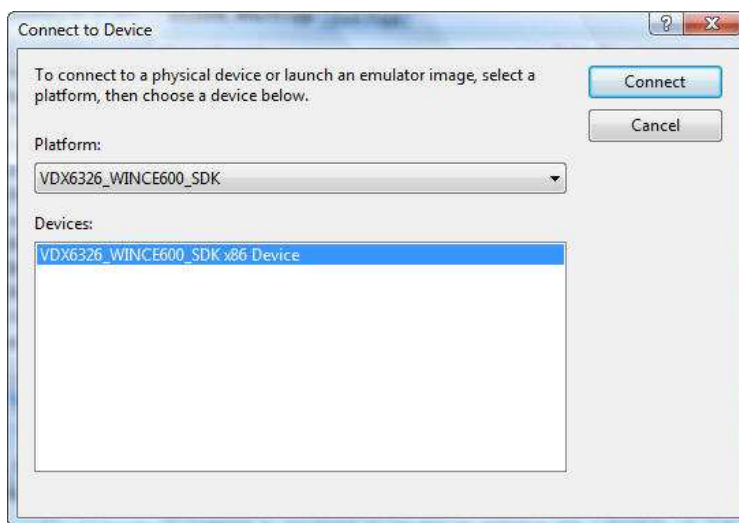

Fig. N12 - Connect to Device
- From VS2008 IDE, select **Tools | Connect to device...** and select **VDX6326_WINCE600_SDK** from the list of available devices, and click on the **Connect** button, as shown in Figure N12.